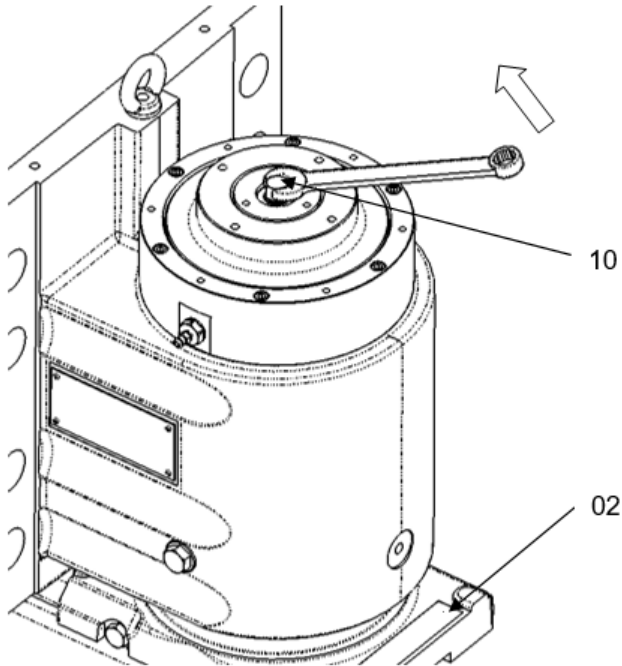

Fig. 5.1
4. Turn the wrench anti-clockwise rail brake HR 130/185 to push the pad holder up **02** Fig. 5.1 fully. Be careful not to force it to the extreme position.